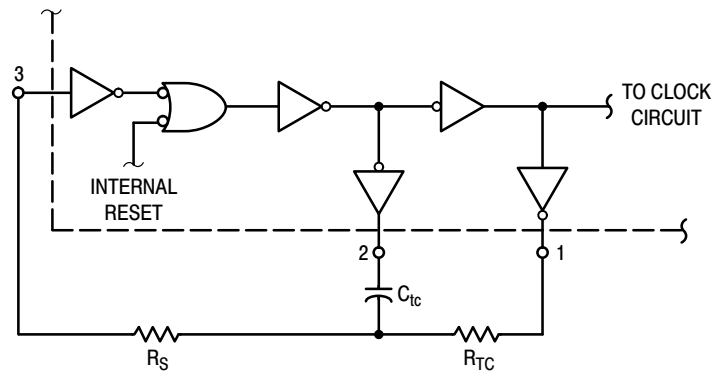

Figure 3. Oscillator Circuit Using RC Configuration
5. When using the on chip oscillator the total supply current (in μAdc) becomes: I_T = I_D + 2 C_{tc} V_{DD} f × 10^{–3} where I_D is in μA, C_{tc} is in pF, V_{DD} in Volts DC, and f in kHz. (see Fig. 3) Dissipation during power-on with automatic reset enabled is typically 50 μA @ V_{DD} = 10 Vdc.
The RC oscillator as shown in Figure 3 will oscillate with a frequency determined by the external RC network i.e.,